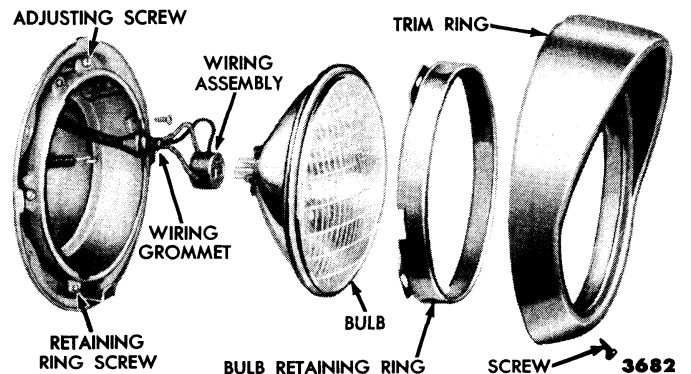

Fig. 7—Headlight—Disassembled
(1) **HEADLIGHTS.** Remove the retaining screw and headlight trim ring (fig. 7). Loosen the retaining ring screws, rotate the retaining ring counterclockwise, and remove it. The headlight bulb may now be pulled forward far enough to disconnect the wiring assembly plug.